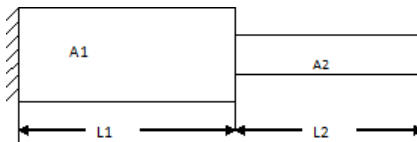

Figure 4
b) For the stepped bar shown in the figure 4. Develop the global stiffness and mass matrices and also determine the natural frequencies and mode shapes. Assume $E = 200 \text{ GPa}$ and mass density $= 7850 \text{ kg/m}^3$, $L_1 = L_2 = 0.3 \text{ m}$, $A_1 = 350 \text{ mm}^2$, $A_2 = 600 \text{ mm}^2$. (15)